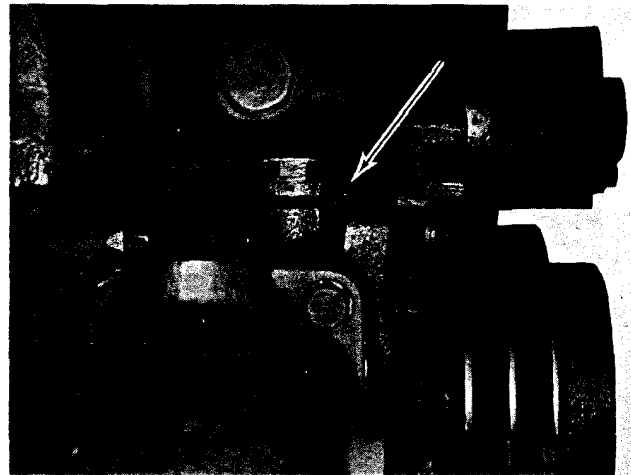

Fig. 2-61, (N11970). NTA-380 Remote type water pump
1. Check level of lubricant in water pump (pump with idler pulley for belt adjustment) by removing pipe plug from side of pump (90 deg. from vertical) and checking for lubricant flow. Fig. 2-61 and 2-62.